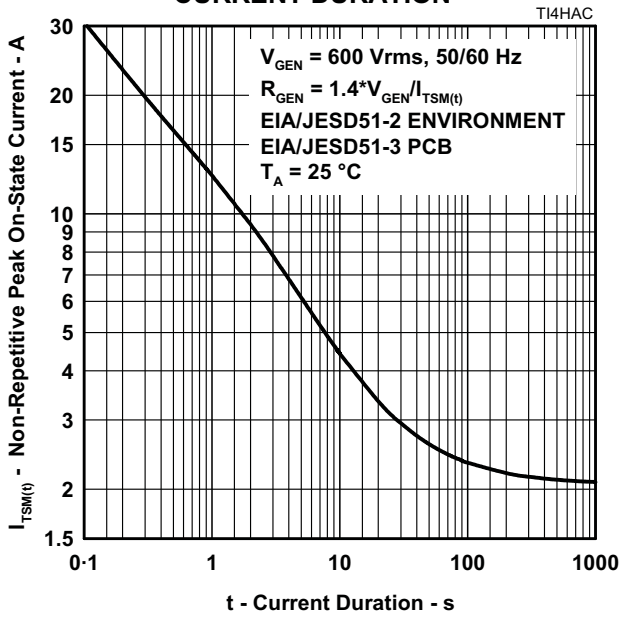

Figure 5.
4. EIA/JESD51-2 environment and EIA/JESD51-3 PCB with standard footprint dimensions connected with 5 A rated printed wiring track widths. See Figure 5 for the current ratings at other durations. Derate current values at  $-0.61\text{ }^\circ\text{C}$  for ambient temperatures above  $25\text{ }^\circ\text{C}$ .